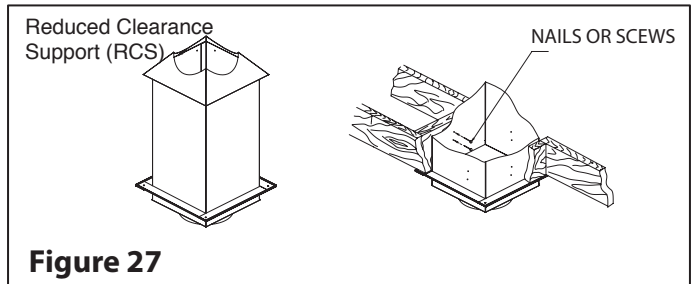

Figure 27
Step 3: From below, push the Reduced Clearance Support (RCS) into the framed opening in the ceiling. Ensuring the support is level, nail the support to the framed opening using (12) - 3" spiral nails or #8 x 1 1/2" wood screws (see Figure 27). At least 3 1/2" of the support must extend into the room. Screw the Finish Trim (included) to the ceiling.